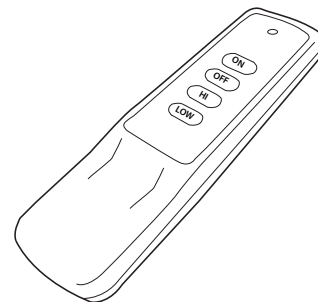

Fig. 23 Transmitter
3. Press the **ON** button on the transmitter (Fig. 23) You will hear the ignitor probe begin sparking for 15-seconds and the fire pit will turn ON.